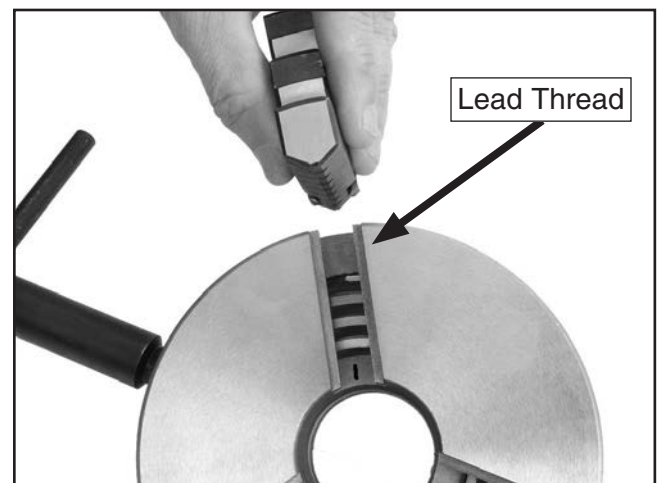

Figure 19. Installing jaw #1.
3. Insert the chuck key into a scroll keyway and rotate it until you see the beginning of the scroll gear's lead thread come into view through the #1 jaw guide, then back it off slightly until it disappears (see **Figure 19**).